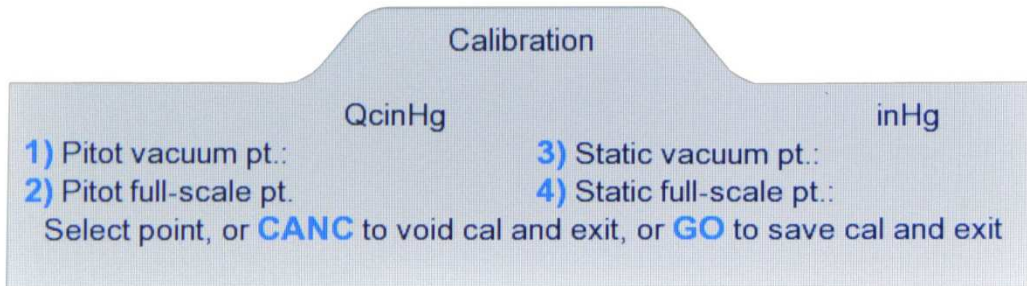

Figure 6.3 : Calibration (Main)
6. Enter '1.600' followed by **ENTER** on the keypad. The highlighted field will be replaced by '1.600'. Press **CLR** to return to the point-selection screen (Figure 6.3). You should see '1.600' on this screen, as the Static vacuum point. This indicates to the 6200 that the absolute pressure on the Static output is currently exactly 1.600 inHg.
9. Enter '0.000' (or simply 0) followed by **ENTER** on the keypad. The highlighted field will be replaced by '0.000'. Press **CLR** to return to the point-selection screen (Figure 6.3). You should see '0.000' on this screen, as the Pitot vacuum point.
12. Enter '15.000' (or simply 15) followed by **ENTER** on the keypad. The highlighted field will be replaced by '15.000'. Press **CLR** to return to the point-selection screen (Figure 6.3). You should see '15.000' on this screen, as the Pitot full-scale point. This indicates to the 6200 that the differential pressure on the Pitot output is currently exactly 15.000 inHg.
15. Enter '32.000' (or simply 32) followed by **ENTER** on the keypad. The highlighted field will be replaced by '32.000'. Press **CLR** to return to the point-selection screen (Figure 6.3). You should see '32.000' on this screen, as the Static full-scale point. This indicates to the 6200 that the absolute pressure on the Static output is currently exactly 32.000 inHg.